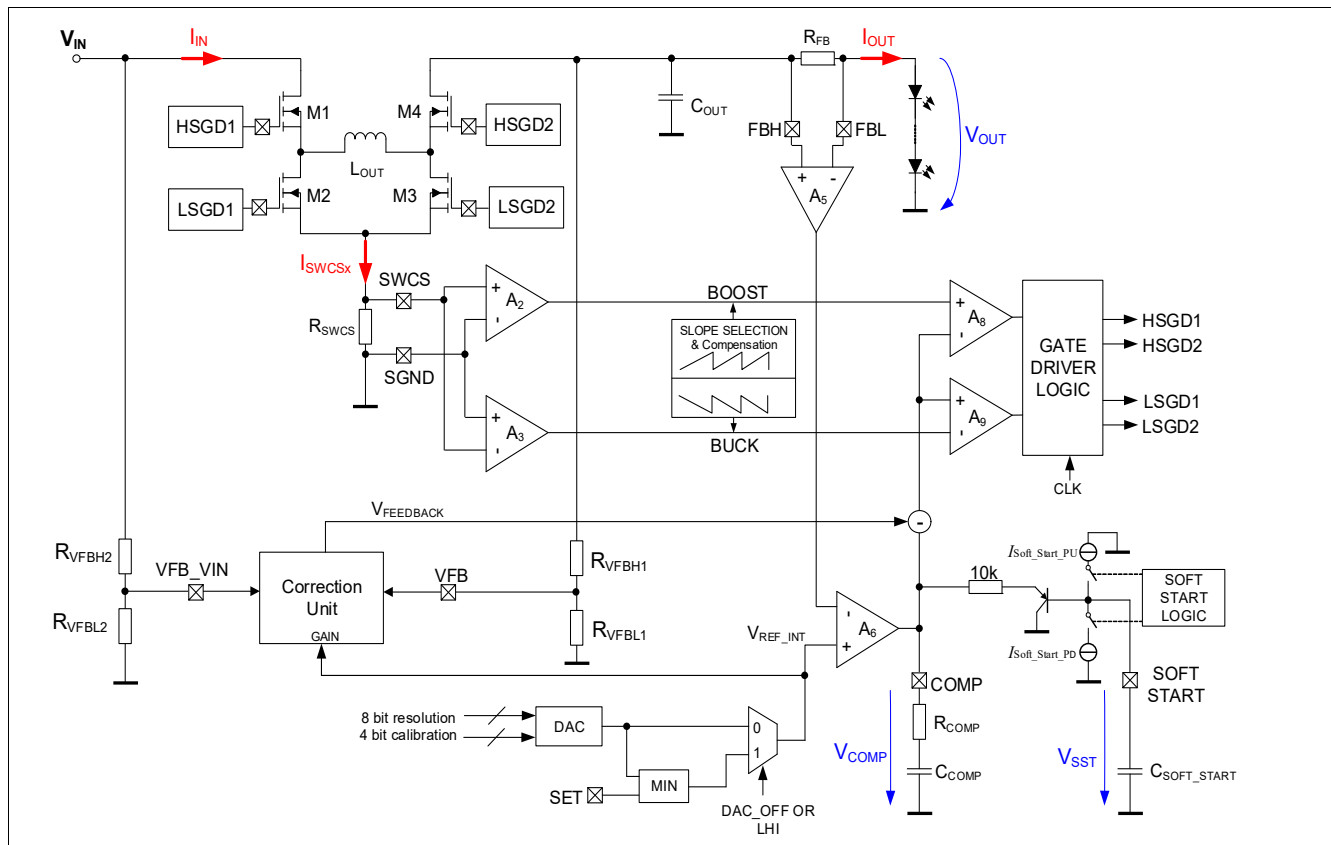

Figure 7 Regulator Block Diagram - TLD5542-1
The control loop block diagram displayed in Figure 7 shows a typical constant current application. The voltage across R_{FB} sets the output current.
An Infineon proprietary correction unit (see Figure 7) ensures optimum performance on MFS architecture, minimizing dependency of comp voltage by the analog dimming value, and reduces overshoots during load jump up.
- Limit input inrush current and output overshoots by limiting Vcomp (**Figure 7**) in boost mode
The Soft Start routine limits the inrush current during boost mode by clamping the COMP pin through a buffer as in **Figure 7**. Therefore this functionality is effective only when Soft Start capacitor is sufficiently larger than the comp capacitor.